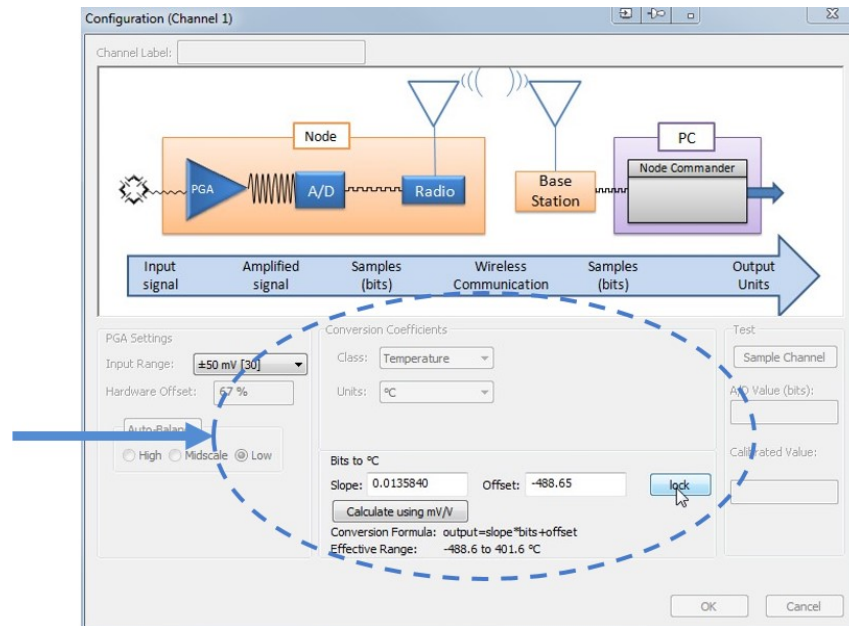

Figure 4 - Entering Conversion Values
11. Enter the calculated slope and offset values from the RTD calculator, and then select Lock to save the values (*Figure 4 - Entering Conversion Values*),.